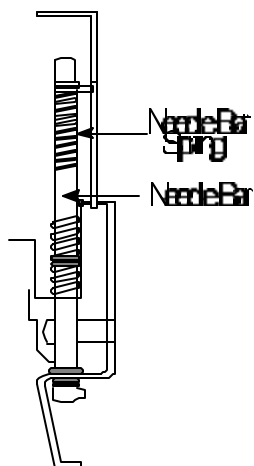

Figure 4
12. **Discard** old Needle Bar and Needle Bar spring. See Figure 4.